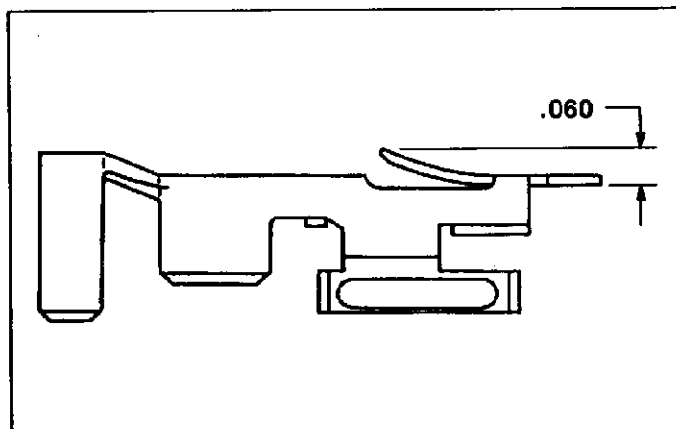

Fig. 4
7. Using a micrometer or vernier caliper, measure reset dimension of locking lance. Dimension should measure .060 +.010/-.005 as shown in Figure 4.